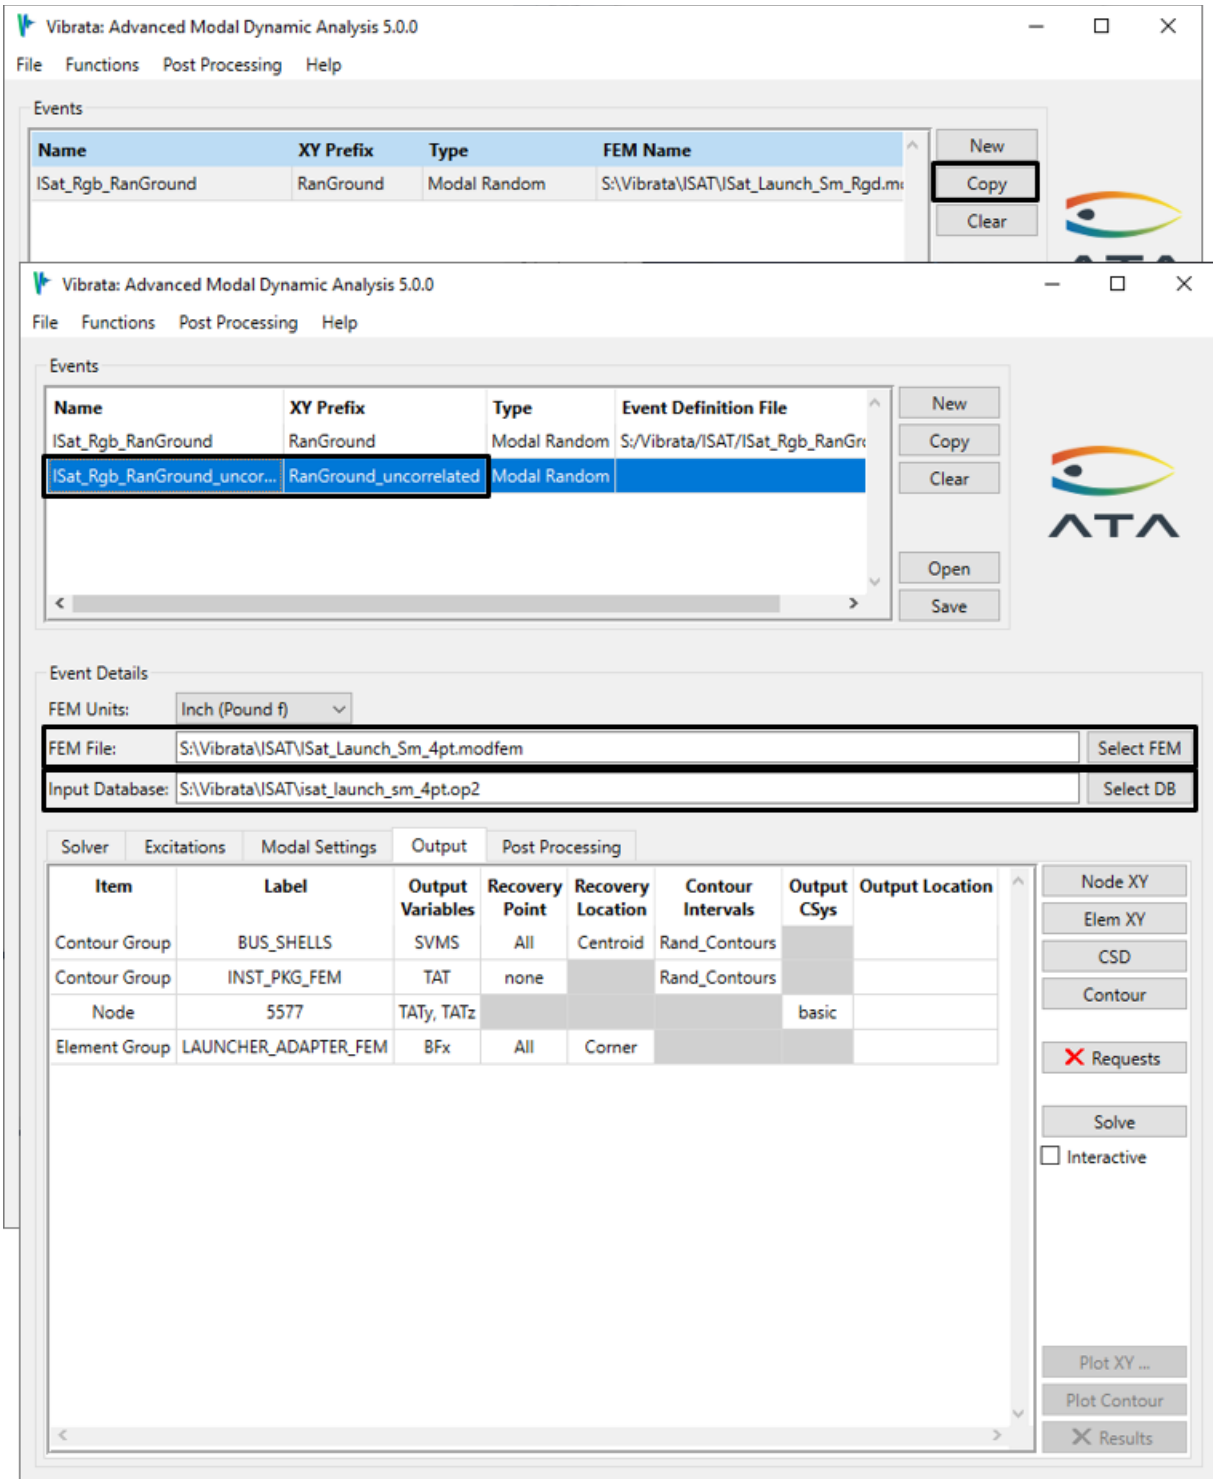

Figure 4-52. Use the **Copy** button to start a new event from the event just completed.
2. In the Event Manager, copy the event from section 4.3.2 using the **Copy** button and then assign a new name to the new event (Figure 4-52). Set the XY-Plot Prefix to "RanGround\_uncorrelated" and change the event name to "Isat\_Rgd\_RanGround\_uncorrelated". Use the **Select FEM** button to select the modfem file for the four-point model. Use the **Select OP2** button to select the OP2 with the same name. You will see a dialog warning of possible changes to excitations and output requests for the new FEM; confirm that you want to make the change. The two events will be identical in their modal settings and output requests, although the new event will have no results yet. The excitation function will also be the same as before, but we now have four input locations instead of only one, so we will have to redefine the excitations.